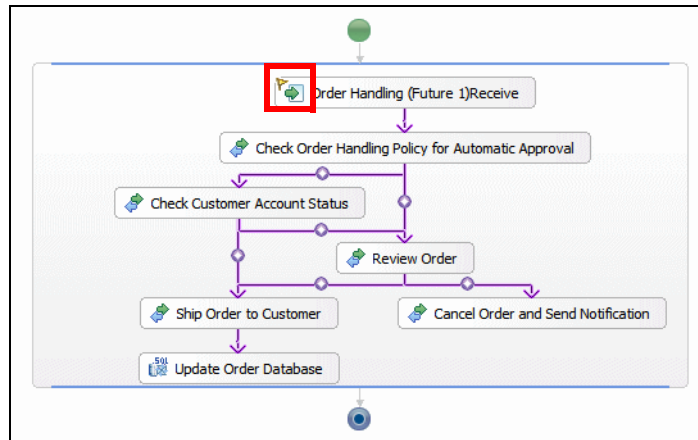

Figure 12-11 Event flag in the BPEL process
- ▶ A yellow flag is set on the OrderHandling (Future 1) Receive element in the process (Figure 12-11).